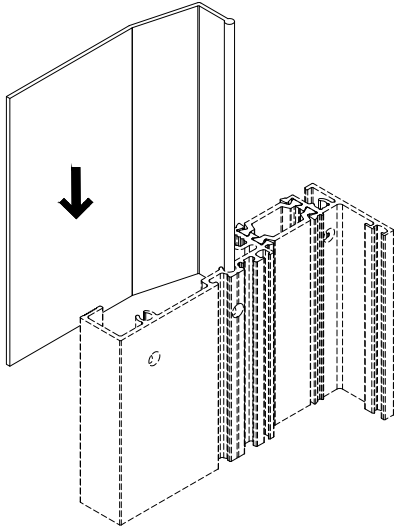

FIG. 1
- Pre slide Strap Anchors into the frame and assemble frames as per FRAME ASSEMBLY Instructions. **See FIG 1. & FIG. 3.**